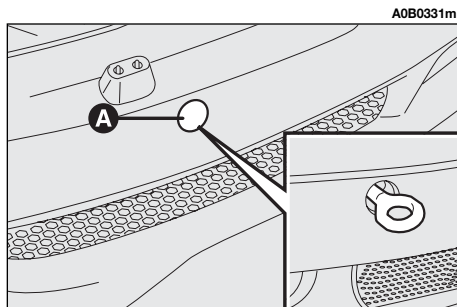
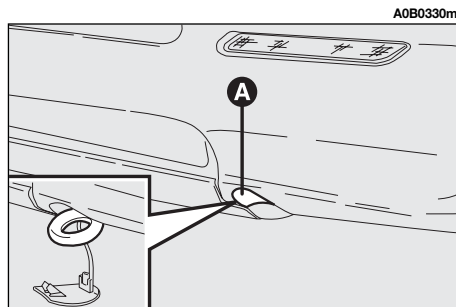

fig. 77
fig. 78
- Remove the cover (A) snap-fitted on the front (fig. 77) or rear bumper (fig. 78). If the supplied flat screwdriver is used to carry out this operation, protect the tip with a soft cloth to prevent damaging the car.